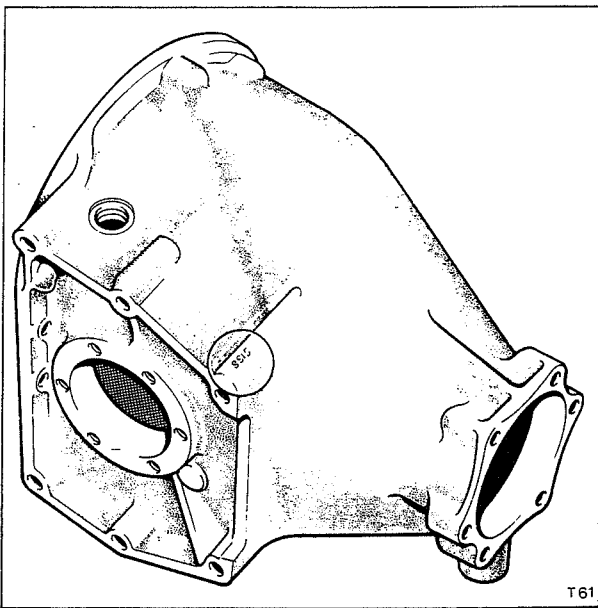

Fig. J7 Stamped dimension on final drive casing
4. Note the dimension stamped on the final drive casing (see Fig. J7) then place the casing in an oven having a temperature of 110°C. (230°F.) for approximately thirty minutes.